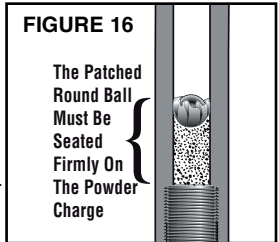

FIGURE 16
- Using the ramrod, push the ball the remainder of the way down the barrel until it firmly contacts the powder charge (FIGURE 15). Seat the ball firmly against the powder charge (FIGURE 16) but do not pound on it. Pounding on the ramrod will deform the ball. A deformed ball will not shoot accurately. Try to load and seat each patched lead ball with the same amount of pressure, shot after shot.